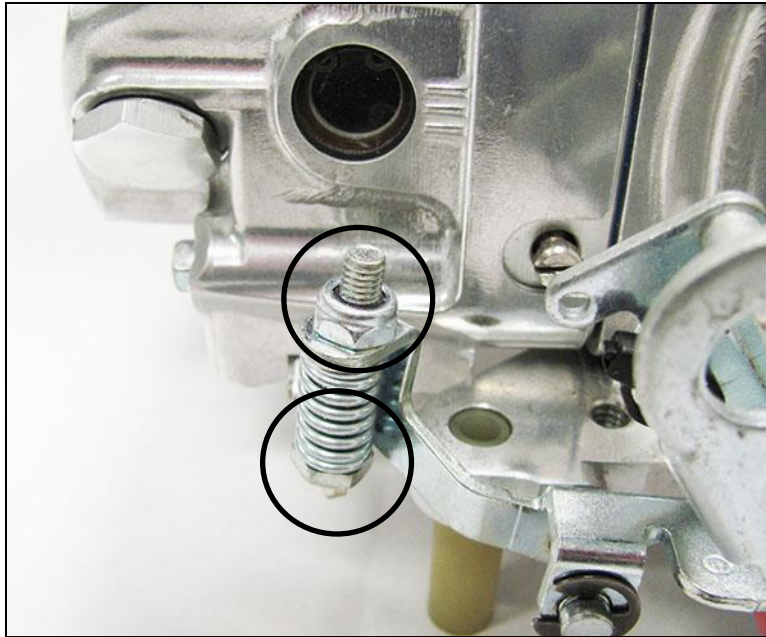

Figure 2
3. Slop in the linkage can be adjusted out by either tightening or loosening the lock nut. This is done by using a wrench at the bottom to hold it tight and turning the top nut to tighten or loosen (**Figure 2**). This will control the length of the compressed spring. Slightly bend the cam follower to adjust for linkage that bottoms out. Remember, it may take a balance of both cam follower and spring adjustments to get the system working best for the application. Different cam profiles are available which can alter the timing, volume, and duration of the pump shot. If pump cams are changed, it may be necessary to re-adjust the linkage.
With the pedal held firmly against a stop or the floorboard, pull the carburetor to its wide open position. Adjust the linkage rod or cable to the proper length, and then attach it to the baseplate linkage. Remember, the pedal should make contact with a positive stop, just as the carburetor gets to wide open throttle. With the linkage rod or cable attached to the baseplate, make sure the carburetor can return to its curb idle position. Install your return spring(s) to the bottom of the throttle lever as shown in **Figure 2**, and check again for smooth operation to wide open throttle, and then closed again.